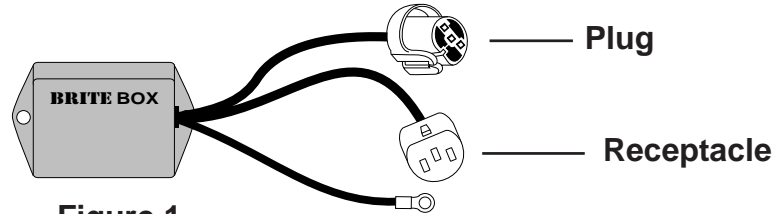

Figure 1
STEP 3: Find a location to mount Brite Box. Make sure car's headlight plug can reach the receptacle (see figure 1) of Brite Box, and that Brite Box's plug (see figure 1) can reach headlight bulb. The black wire of Brite Box must also be able to reach negative (-) battery cable.
STEP 4: On the side of the vehicle where you are installing Brite Box use a medium screwdriver to gently remove the car's OUTER headlight plug from the headlight bulb. **DO NOT** remove bulb from headlamp assembly by turning round lock ring. Use caution so you do not break the retainers on the stock headlight plug. Take the just removed stock plug and fully insert it into Brite Box's receptacle (see figure 1).
STEP 5: Plug the headlight plug (see figure 1) from Brite Box into your headlight bulb. Make sure plug is fully seated.